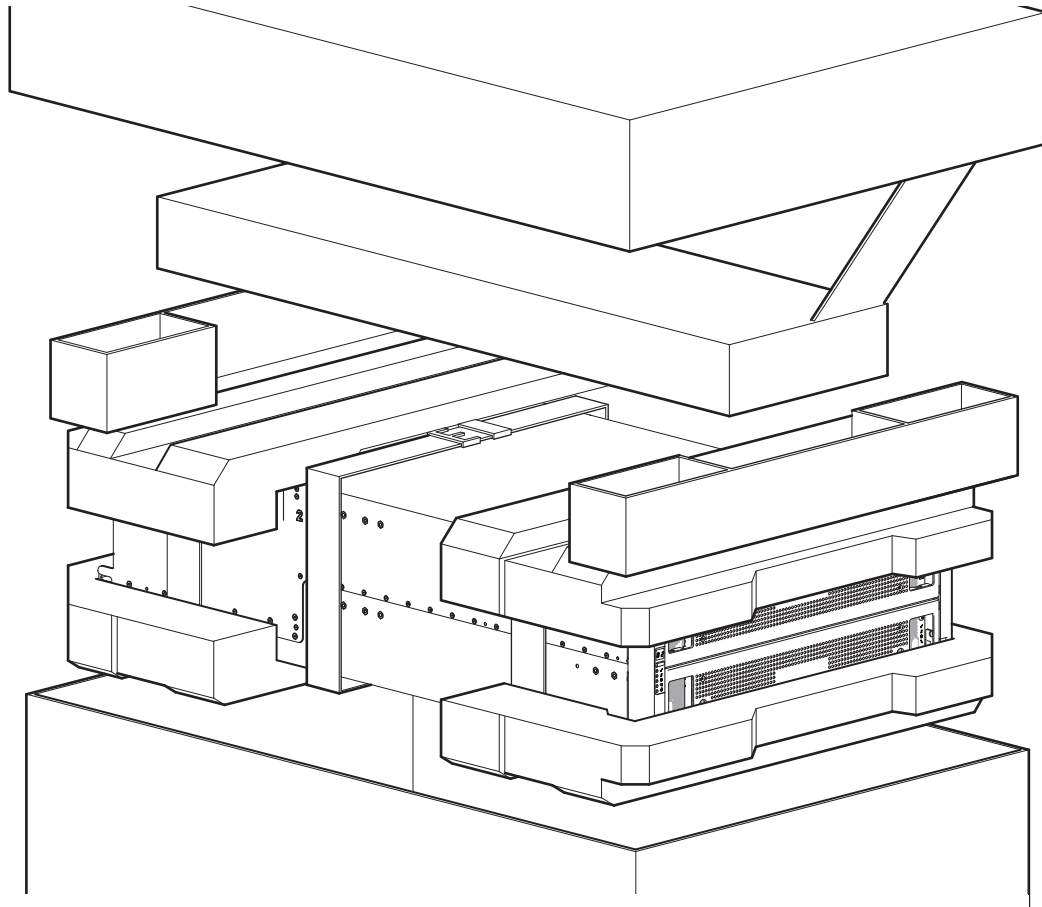

Figure 48 Unpacking the 5U84 enclosure
3. The unpacking procedure pertaining to the 5U84 is shown in Figure 48.